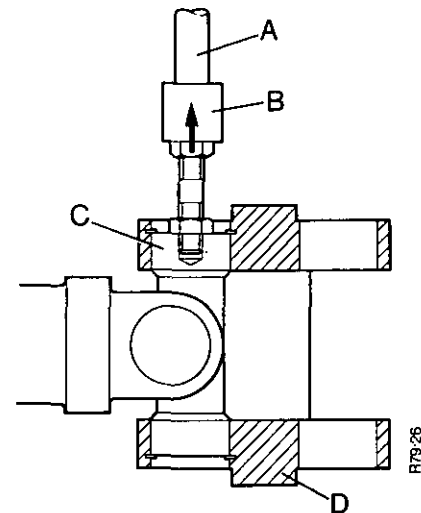

FIGURE 29. REMOVING CUPS FROM CENTRE HOUSING OF UNIVERSAL JOINT
5. Use the tool shown in Figure 8 on page 8 and a slide hammer to remove these cups. See B Figure 29.